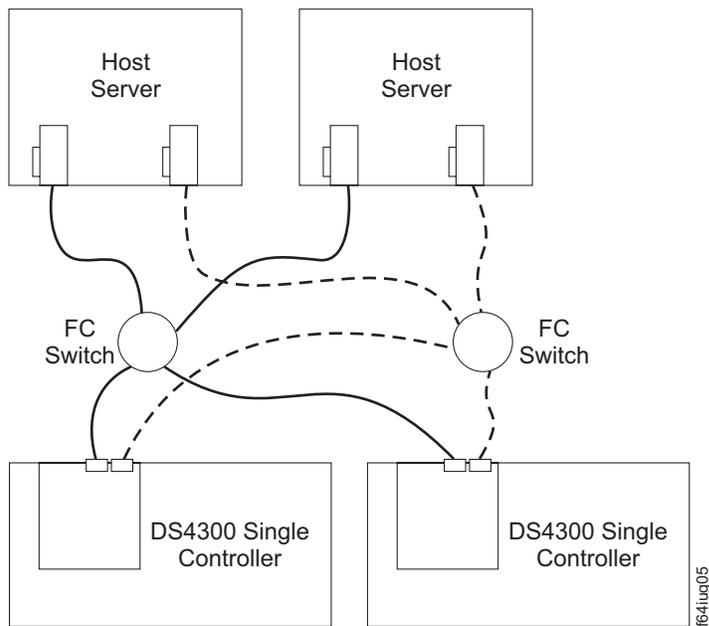

Figure 65. Example of a dual-server, dual-SAN fabric zone configuration with two adapters per server (Model 6LU/6LX)
- Dual-server, dual-SAN fabric zone configuration with two adapters per server (Figure 65 on page 80)